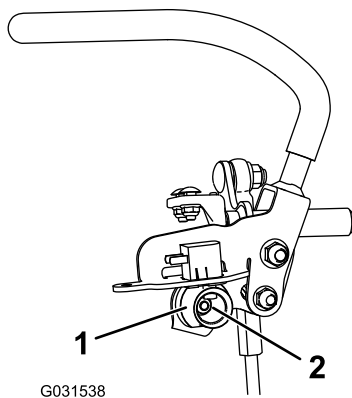

Figure 68
6. Loosen the nut holding the cam (Figure 68).